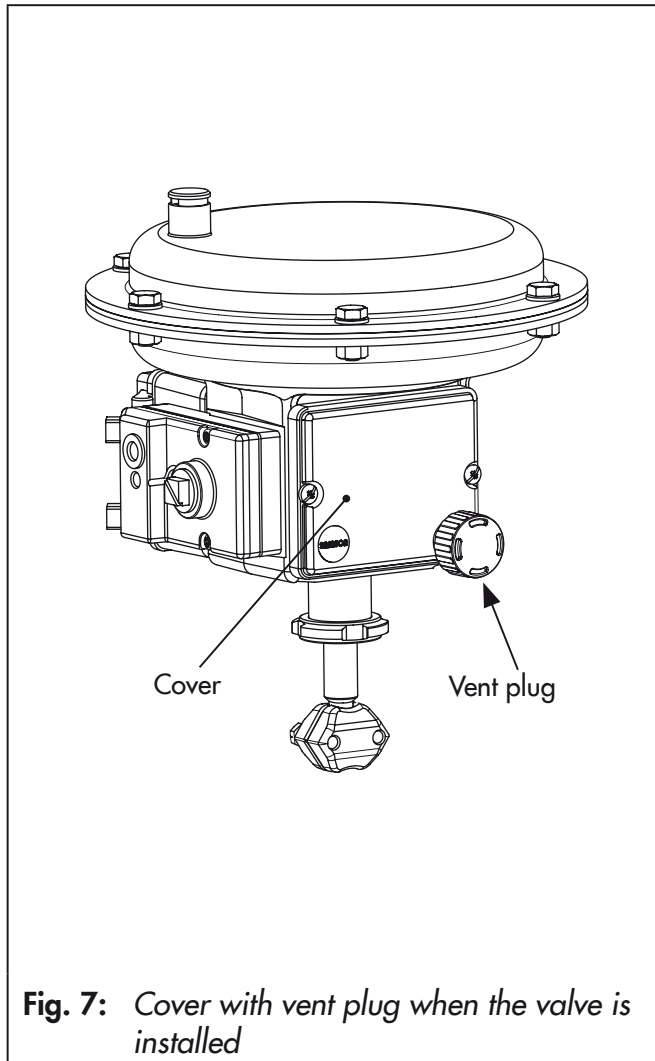

Fig. 7: Cover with vent plug when the valve is installed
8. Mount cover (11) on the other side. Make sure that the vent plug is located at the bottom when the control valve is installed to allow any condensed water that collects to drain off (Fig. 7).
5. Make sure that the tip of the gasket (16) projecting from the side of the connection block is positioned to match the actuator symbol for the actuator's fail-safe action "actuator stem extends" or "actuator stem retracts". If this is not the case, unscrew the three fastening screws and lift off the cover. Turn the gasket (16) by 180° and re-insert it.
6. Place the connection block (12) with the associated seals against the positioner and the actuator yoke and fasten using the screw (12.1).
8. Mount cover (11) on the other side. Make sure that the vent plug is located at the bottom when the control valve is installed to allow any condensed water that collects to drain off (see Fig. 7 on page 30).